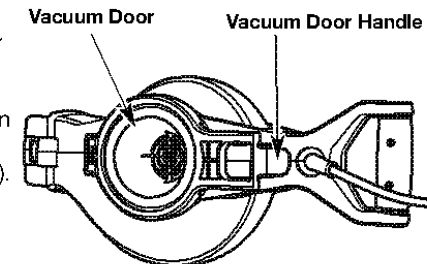

Fig. 3
1. With the unit off and unplugged, open the vacuum door by pulling the vacuum door handle away from the motor housing (Fig. 3).